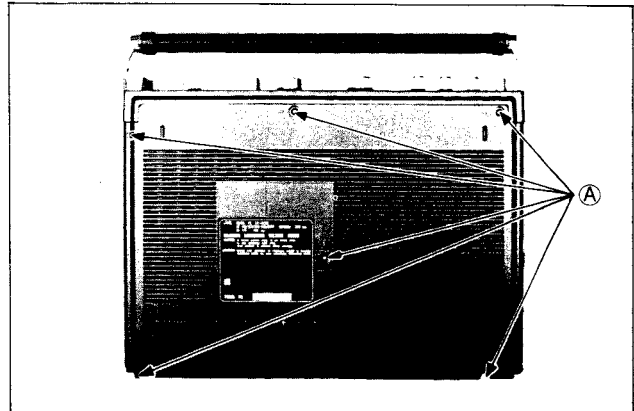

Fig. 1
Unfasten the six screws marked (A) in Fig. 1. From the battery housing, disconnect connector B which is connected to the power source circuit board. Finally remove the rear cover.